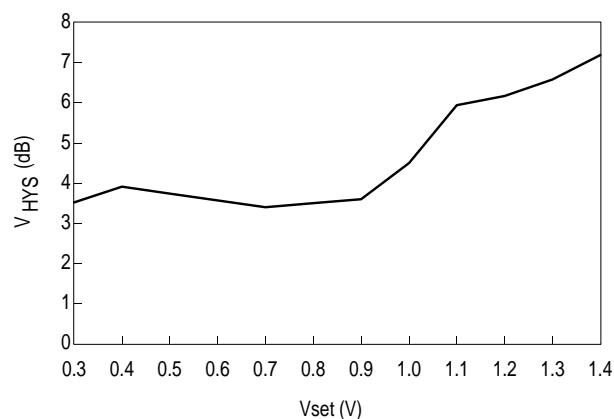

Figure 5. LOS Hysteresis (T_A = 25°C)
2. This device has an anomaly in V_{HYS} when 0.65 < V_{SET} < 0.75V. Operation in this region is not recommended. (See Figure 5)